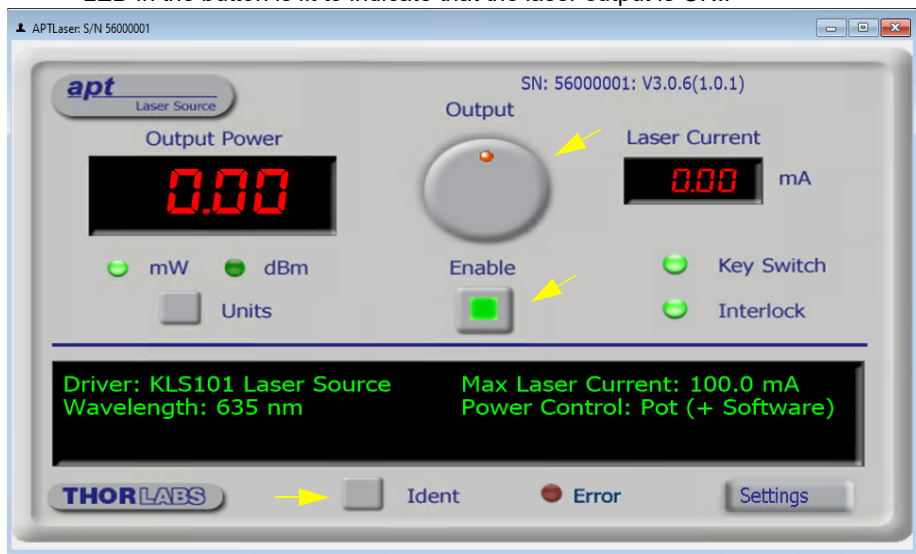

Fig. 5.1 Gui panel showing jog and ident buttons
- 5) Run the APT User program - Start/All Programs/Thorlabs/APT User/APT User. The APT server registers automatically the units connected on the USB bus and displays the associated GUI panels as shown in Fig. 5.1.